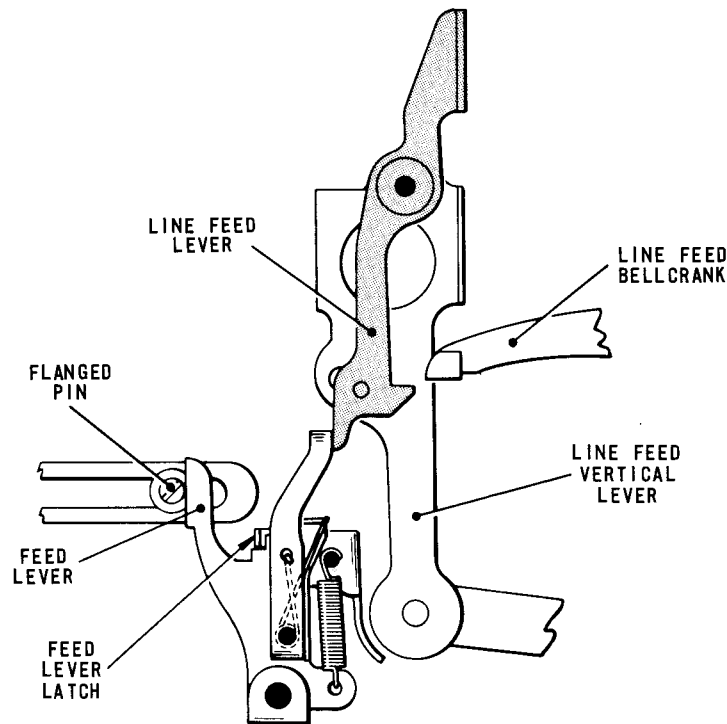

Fig. 4.91 AUTOMATIC CARRIAGE-RETURN/LINE-FEED MECHANISM
- 114.2 Check that the flanged pin, Fig.4.91, on the typehead carriage has now operated the feed lever, thus causing the feed lever latch to drop into the bottom step of the lever.